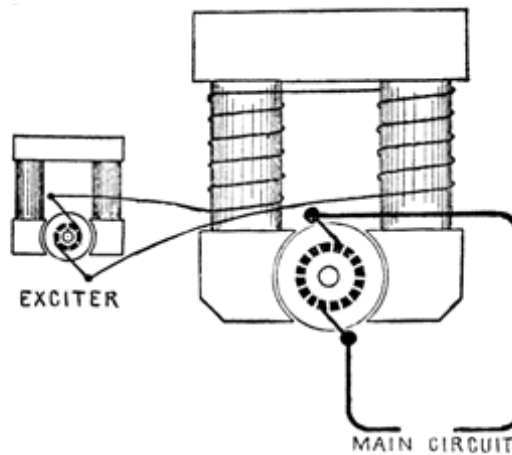

Fig. 2.12.28 Working of Exciter System
3. Explain the working of the Exciter System and how it is important for the operation of a DG system(Refer to Figure 2.12.28